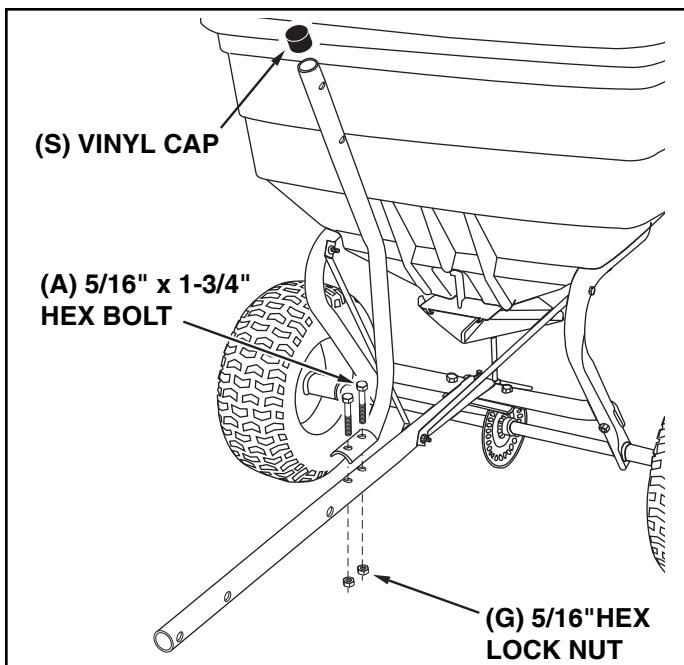

FIGURE 5
13. Assemble the flow control mounting tube to the hitch tube using two 5/16" x 1-3/4" hex bolts (A) and 5/16" hex lock nuts(G). **DO NOT TIGHTEN YET**. See figure 5.
14. Assemble the vinyl cap (S) onto the flow control mounting tube. See figure 5.